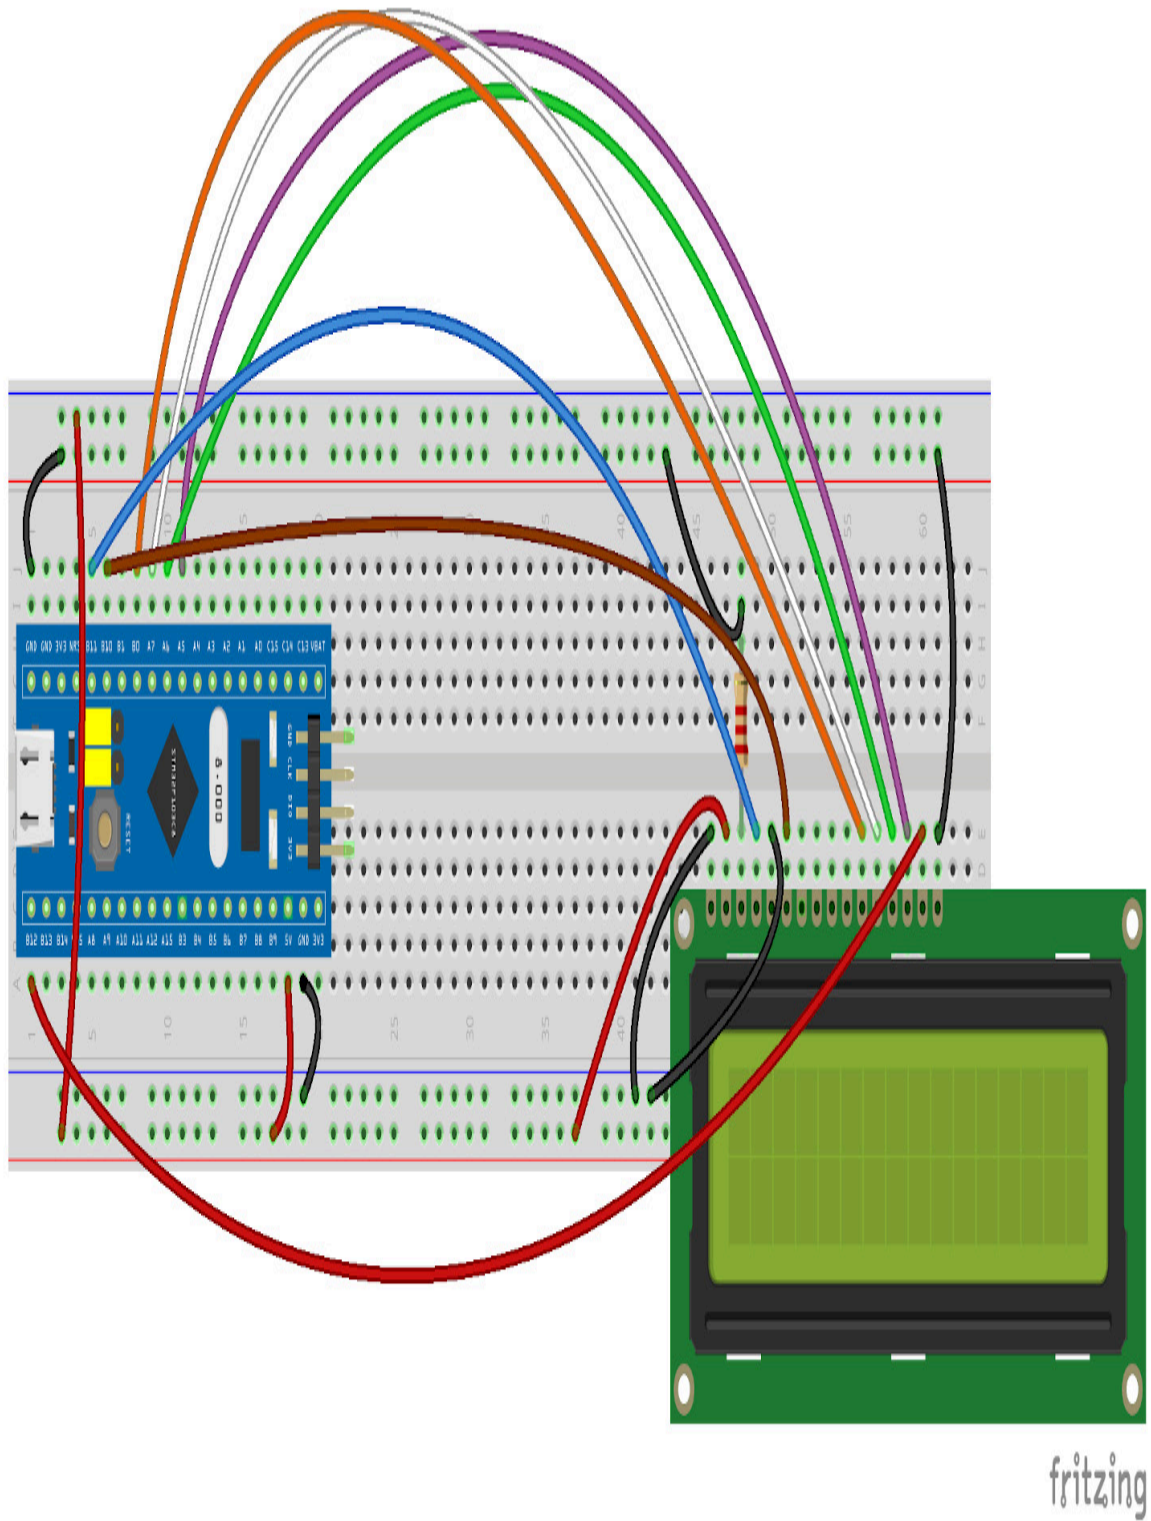
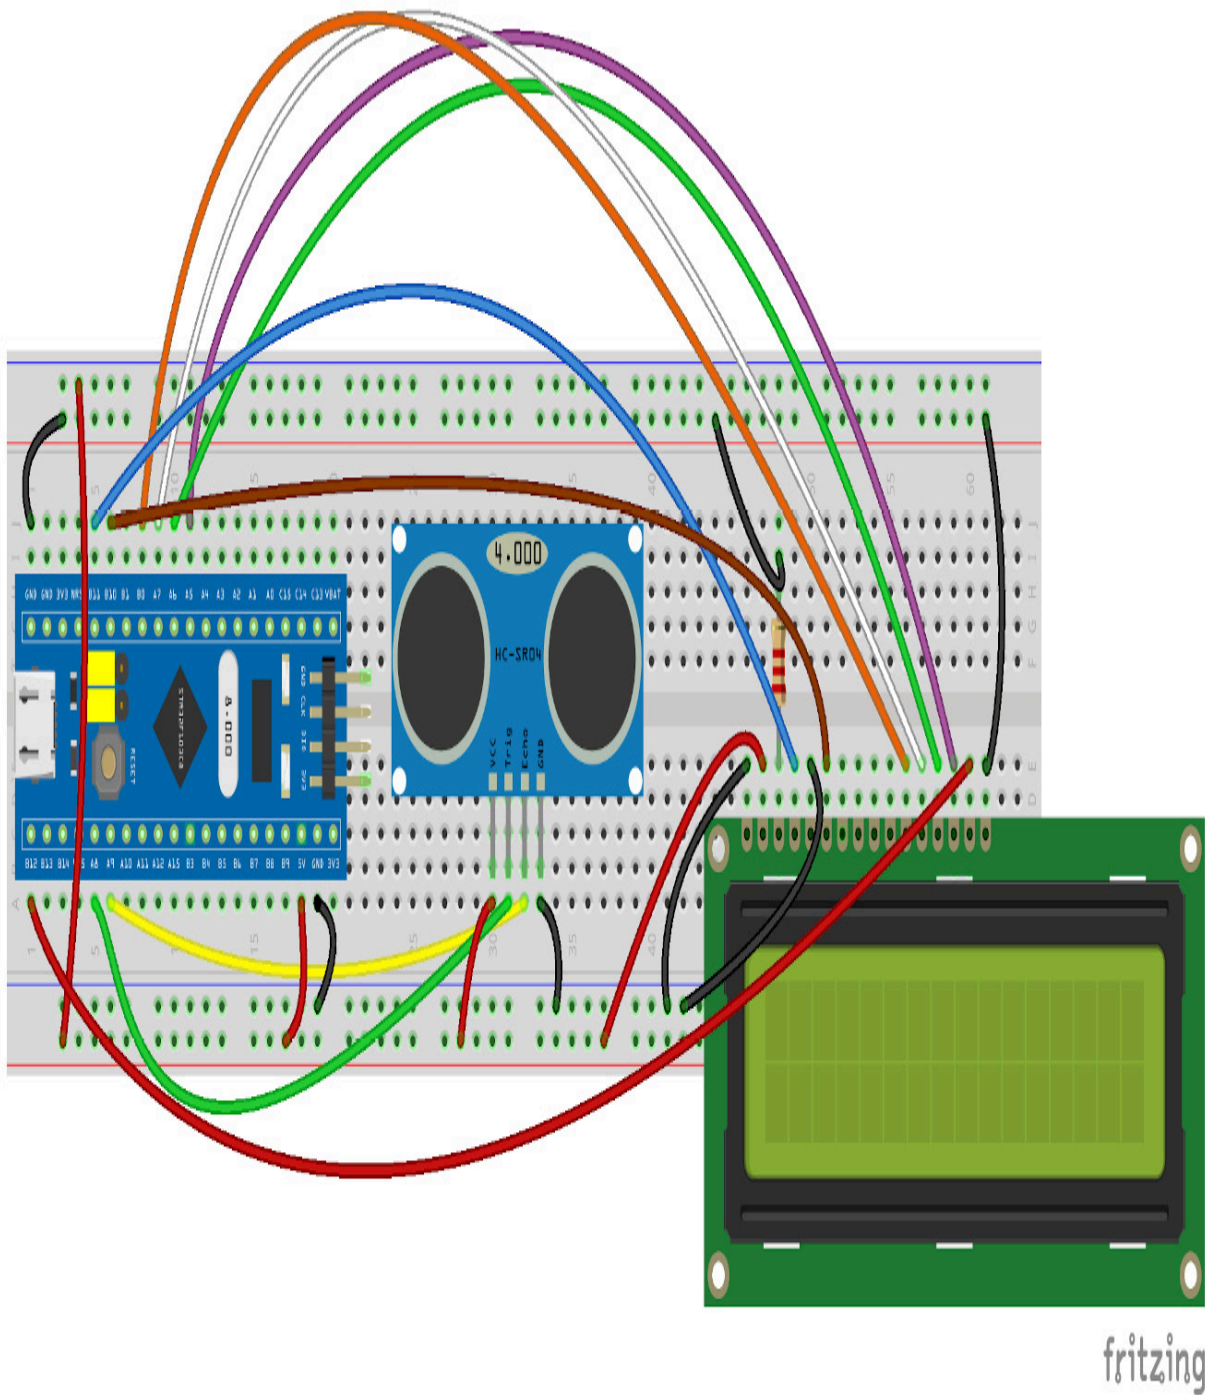

Figure 14.1 – The LCD connected to the Blue Pill microcontroller board
Figure 14.7 – The ultrasonic sensor connected to the Blue Pill microcontroller board
In this section, we explain how to connect and use the 1602 LCD to show the timer on it. *Figure 14.1* shows the Fritzing diagram similar to the one explained in Chapter 5, Humidity and Temperature Measurement:
The following are the steps for connecting the LCD to the Blue Pill, following the diagram from *Figure 14.1*:
*Figure 14.7* shows how to connect the HC-SR04 ultrasonic sensor to the Blue Pill:
From *Figure 14.7*, you can see that one of the breadboard's lower rails is connected to the Blue Pill's **5V** pin. The other rail is
connected to Blue Pill's ground. The following are the steps for connecting the HC-SR04 sensor to the Blue Pill in addition to the steps followed in *Figure 14.1*, following the diagram from *Figure 14.7*: